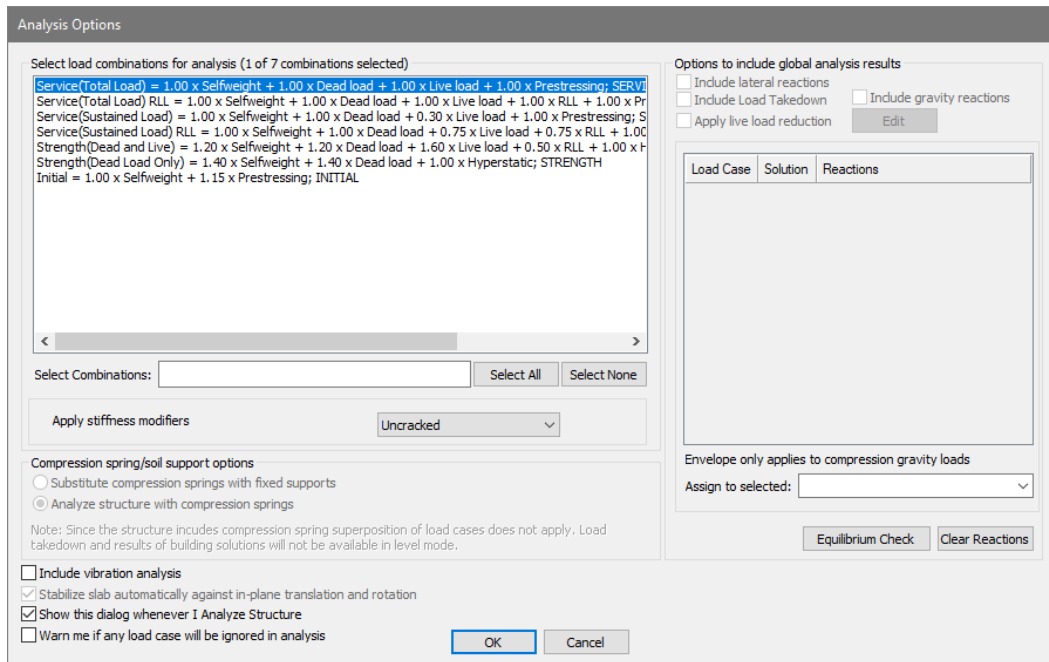

Figure 6-5
- Other options in this dialog window will be left with their default values. Before pressing **OK** to analyze make sure your screen matches the screen shown in **FIGURE 6-5**. If everything matches click **OK** to analyze the structure.